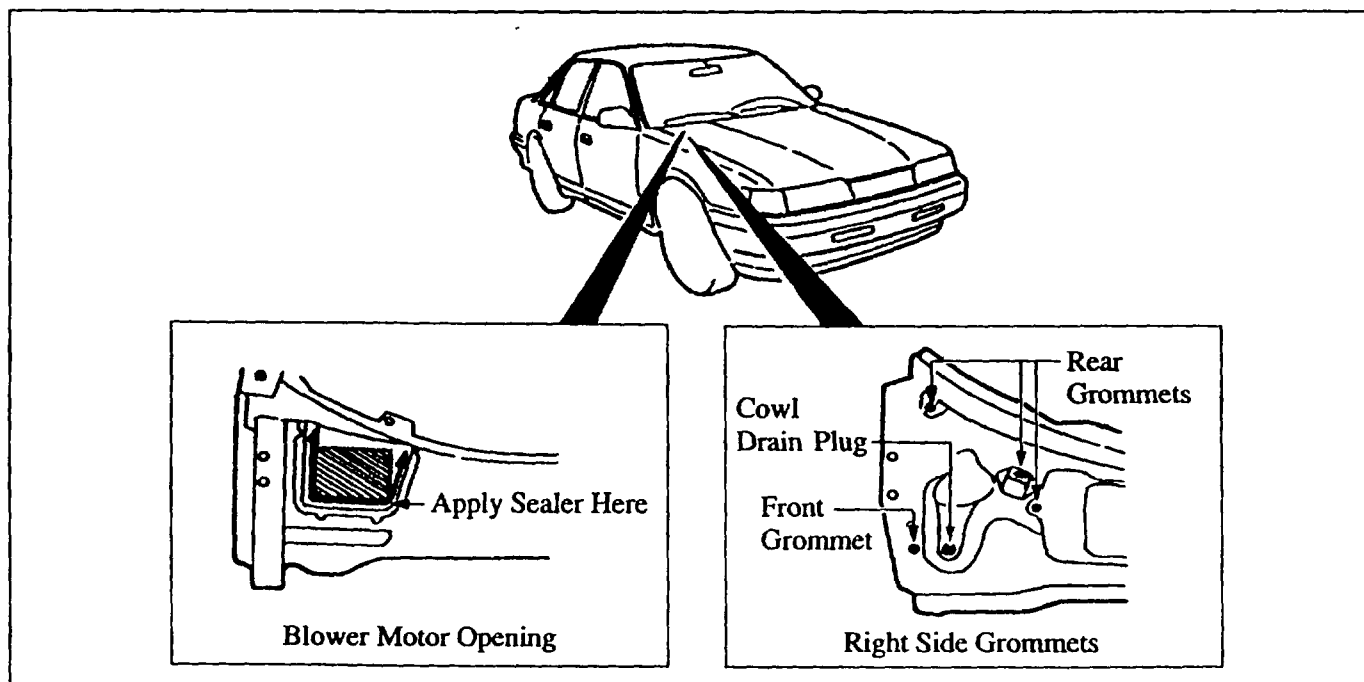

Figure 8: Checking Right Side Cowl for Leaks
4. Check all grommets shown in Figure 8 for leaks by spraying water on each one. Replace any grommets that leak.
5. If the grommets do not leak, seal the baffle seam by reaching up through the blower motor opening and seal the areas indicated in Figure 8.